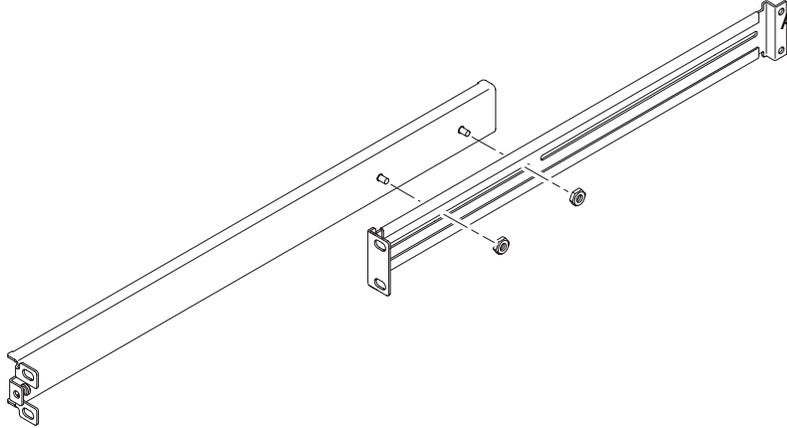

FIGURE 2-7 Positioning the Slide Mounts for a Sun StorEdge 72-inch Tall Rack
2. **Position the two parts of the slide so that the double-angled end (A) is in the correct position for the rack you are installing into.**
For the Sun StorEdge™ 72-inch tall (19-inch wide) rack, the double-angled end (A) must be at the back (see FIGURE 2-7).